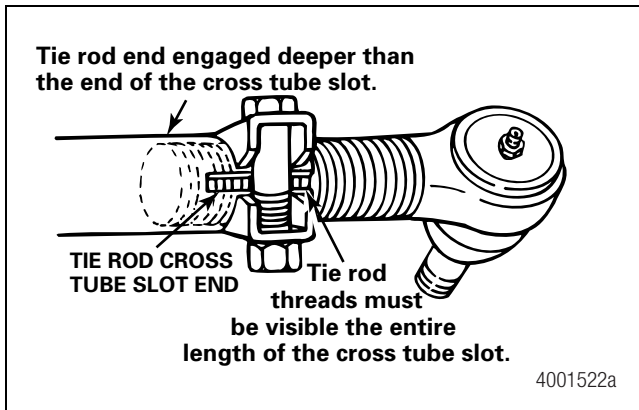

**Figure 8.9**
8. To obtain the toe measurement, subtract the distance between the front of the tires from the distance between the back of the tires. Figure 8.9.